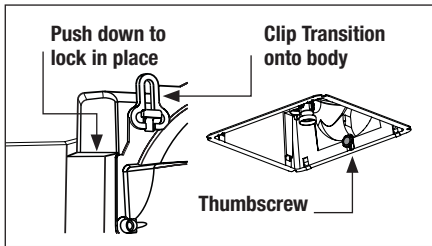

Fig. 14
4. Connect Transition to Tastic body and secure with thumbscrew as shown in Fig 14.